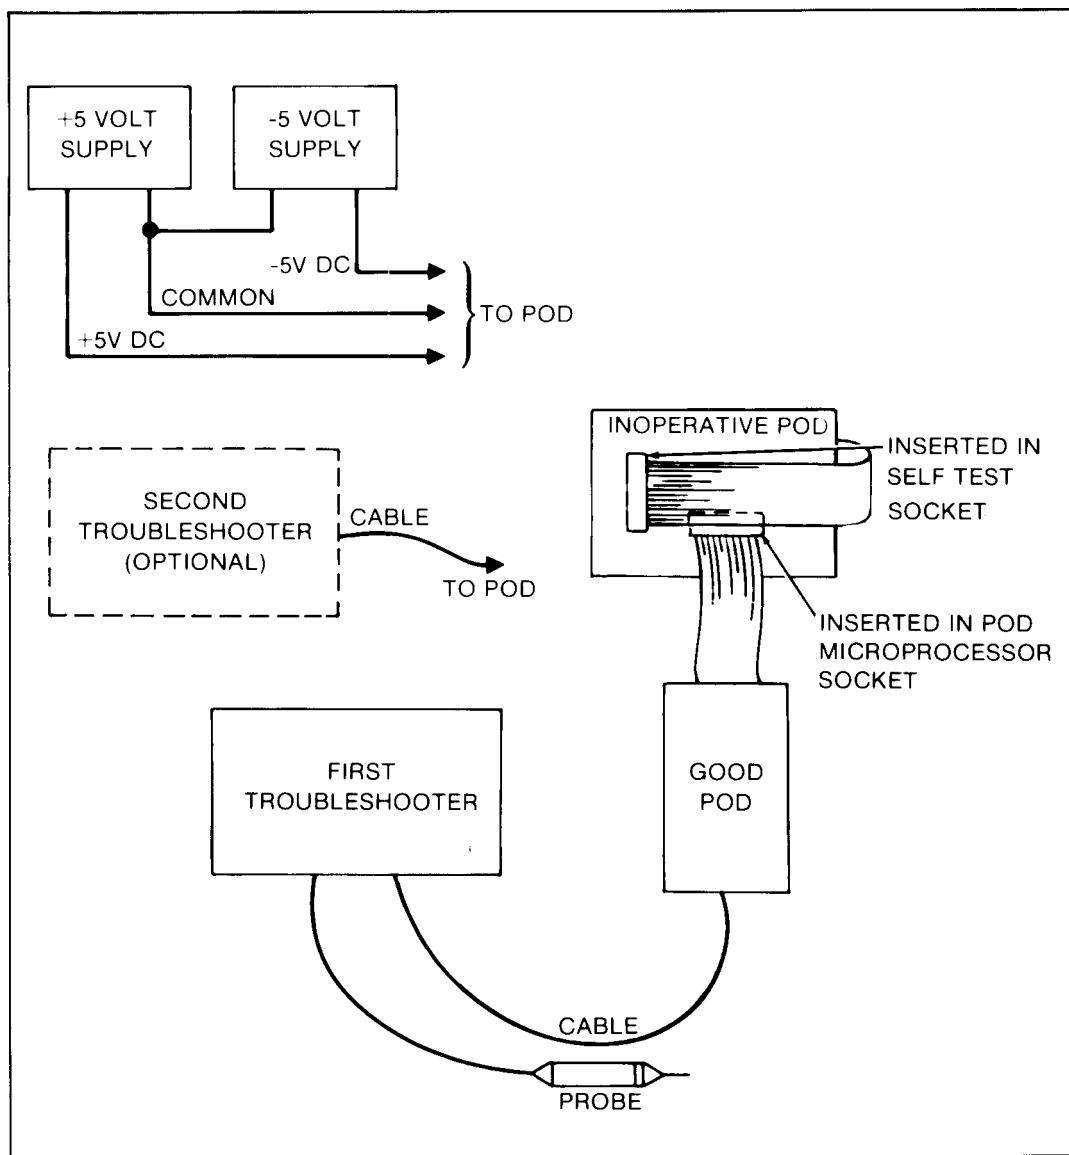

Figure 6-2. Troubleshooting an Inoperative Pod
4. If a second troubleshooter is available, connect the pod cable plug from the inoperative pod to the second troubleshooter to supply the inoperative pod with power. If a second troubleshooter is not available, connect a +5V DC (2 amp) and a -5V DC (200 mA) power supply to the pod as shown in Figure 6-2. An easy place to make the power connections is at the connector that usually connects the cable to the troubleshooter.
7. Connect the troubleshooter to the good pod as shown in Figure 6-2. Apply power to the troubleshooter, then install the ribbon cable plug of the good pod in the microprocessor socket of the inoperative pod.